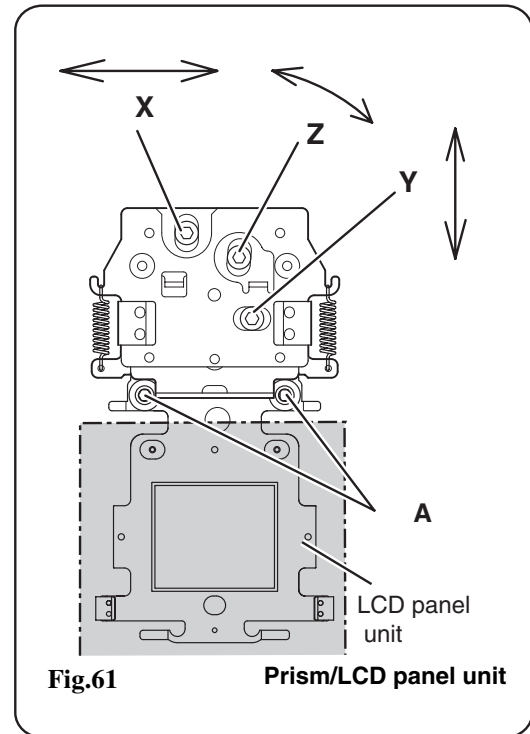

Fig.61
For convergence adjustment, use Green as the reference standard. Align Red and Blue with Green by adjusting the position and angle of the Red and Blue LCD panel. Screws X, Y and Z (Fig.61) are for convergence adjustment. When adjusting the Green reference LCD panel, both on Red and Blue LCD panel should be adjusted with Green LCD panel.
- (Fig.61, 61a, 61b, 61c)